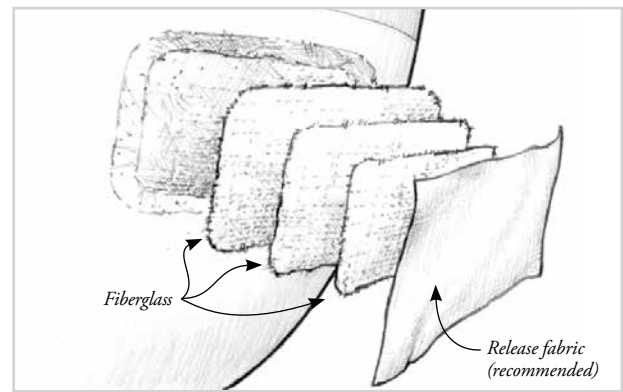

Figure 12-11 Rebuild the laminate to its original thickness using multiple layers of glass cloth, bonded with epoxy
1. Cut an appropriate number of pieces of fiberglass cloth the same shape as the repair area. The first piece should be slightly smaller than the outside of the beveled edge with subsequent pieces gradually getting smaller. The final layer should be the same size as the bottom of the bevel, and the combined thickness of the layers should be slightly thinner than the original panel to allow for final shaping and fairing. Also cut one piece of WEST SYSTEM 879 Release Fabric or peel ply, several inches larger than the repair area. This will be used to smooth the patch into place (Figure 12-11).